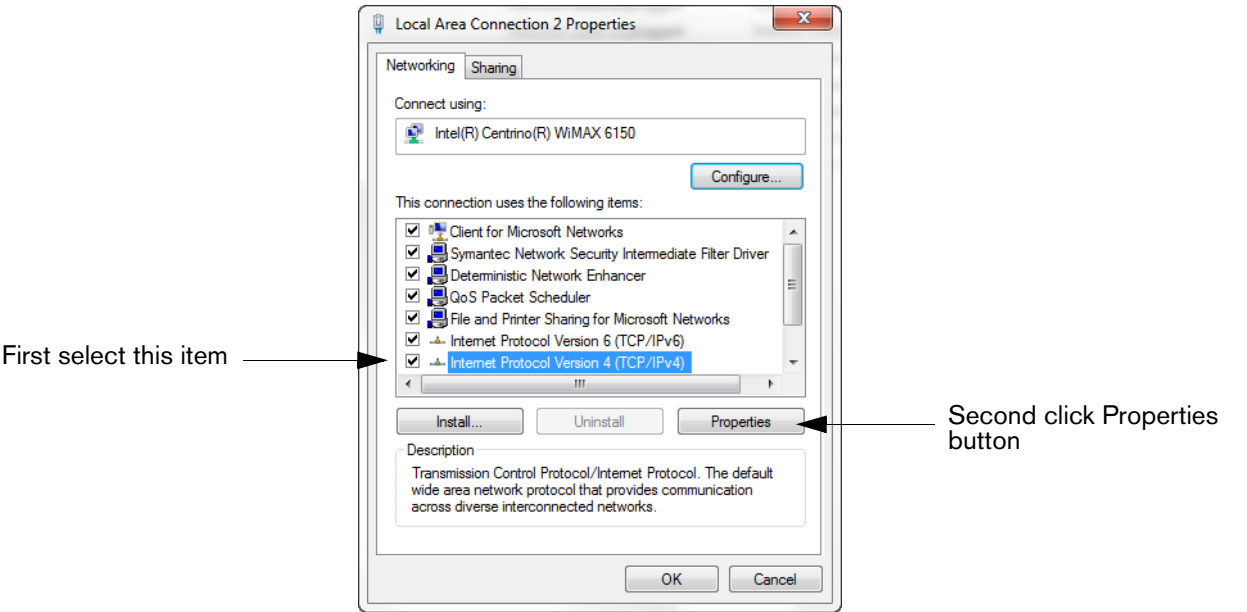

Figure 7. Local Area Connection ‘X’ Properties dialog box selections
4. When the selected Local Area Connection Properties dialog box opens make the selection shown in Figure 7.